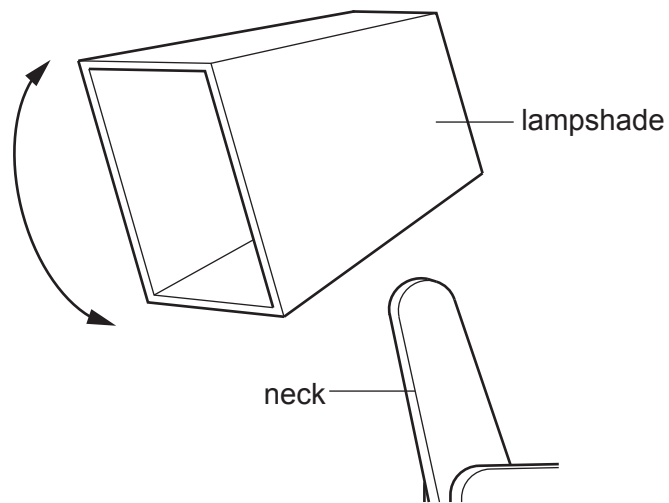

Fig. 13.5
- (g) Fig. 13.5 shows the lampshade that will be joined to the neck and allowed to move as shown when adjusted.